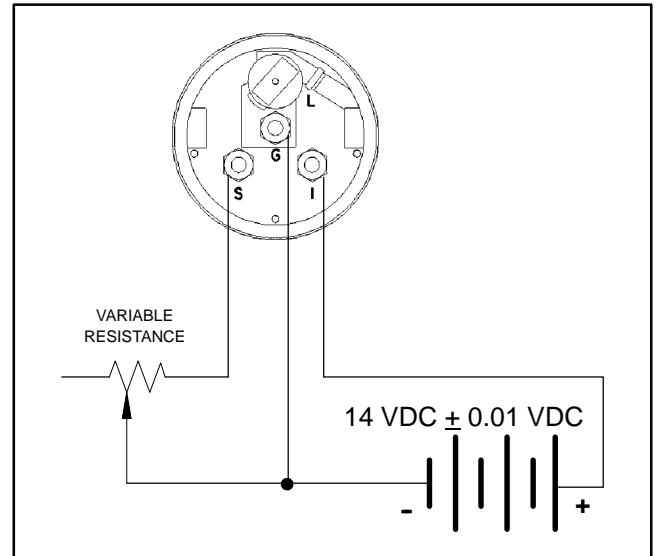

Figure 46
3. Connect fuel gauge to the variable resistance and DC voltage source (Fig. 46).